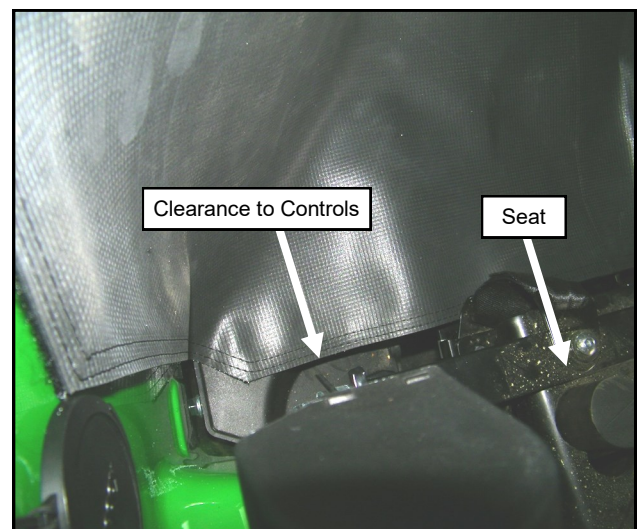

Fig. 22.3 (Controls Next to Seat)
22.3 Ensure the filler does not interfere with operation of the controls next to the seat. See Figure 22.3.